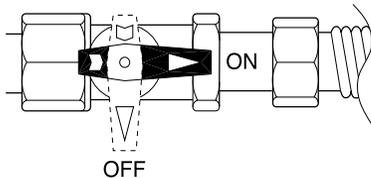

Figure 14 - Manual Control Valve
1. Close manual control valve (see Figure 14).